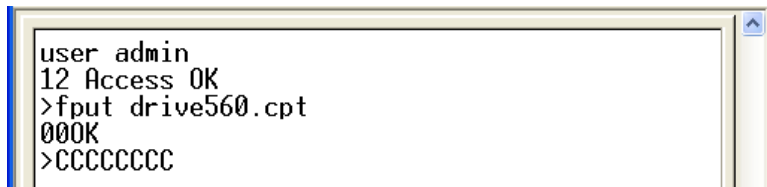

Figure E-1: IND560 Shared Data Server Login
5. Once the "CCCC..." begins to display (Figure E-1), navigate to the Transfer > Send File menu in HyperTerminal.